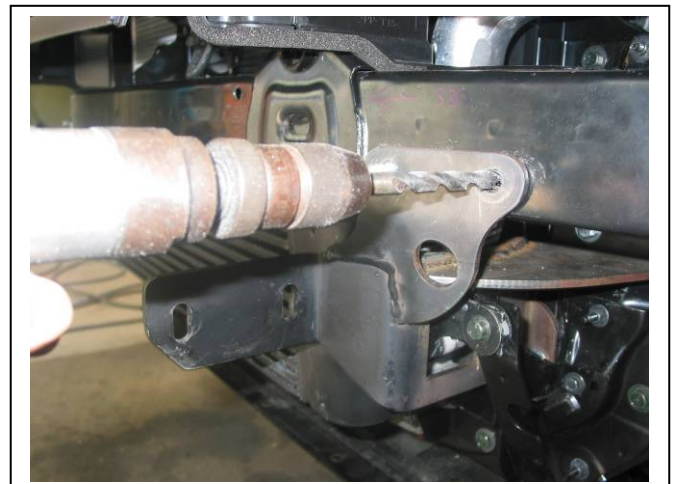

Figure 8 – Using 10mm drill in top of ECB mount bracket
- Using ECB Steel mounting brackets as a guide, drill two 10mm holes (per side) in front of bumper support. **See figure 8. NOTE: Blow all filings from chassis and treat all drilled holes with paint or rust proofing as installing.** Fit two 3/8 x 1 ¼ bolts and washers on 300mm wire (per side) into end of bumper support to line up with holes. Secure with 3/8 nuts, spring washers and flat washers. **Tighten all bolts.**